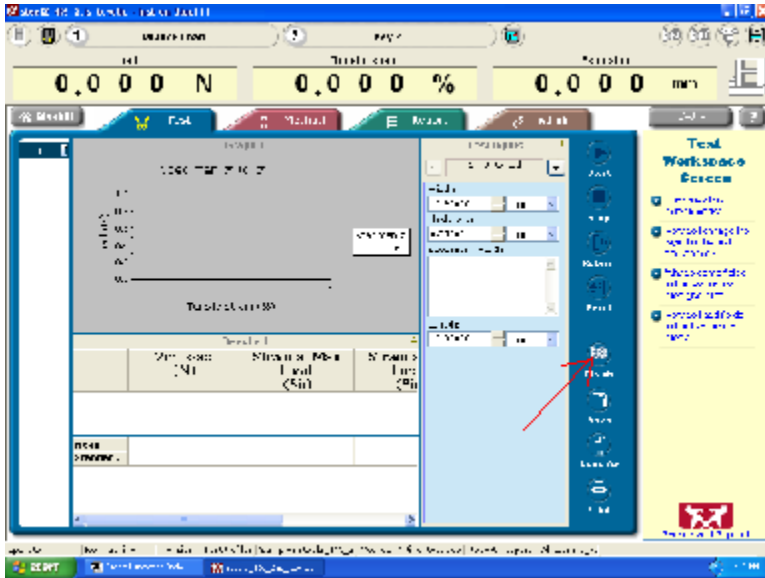

Figure 2: Testing Screen
6. Once the testing is complete, click on the "finish" icon (figure 2) to end the test. An output file (in either pdf or .doc format) for your experiment will be saved under the name and at the location you gave at the beginning of the experiment.